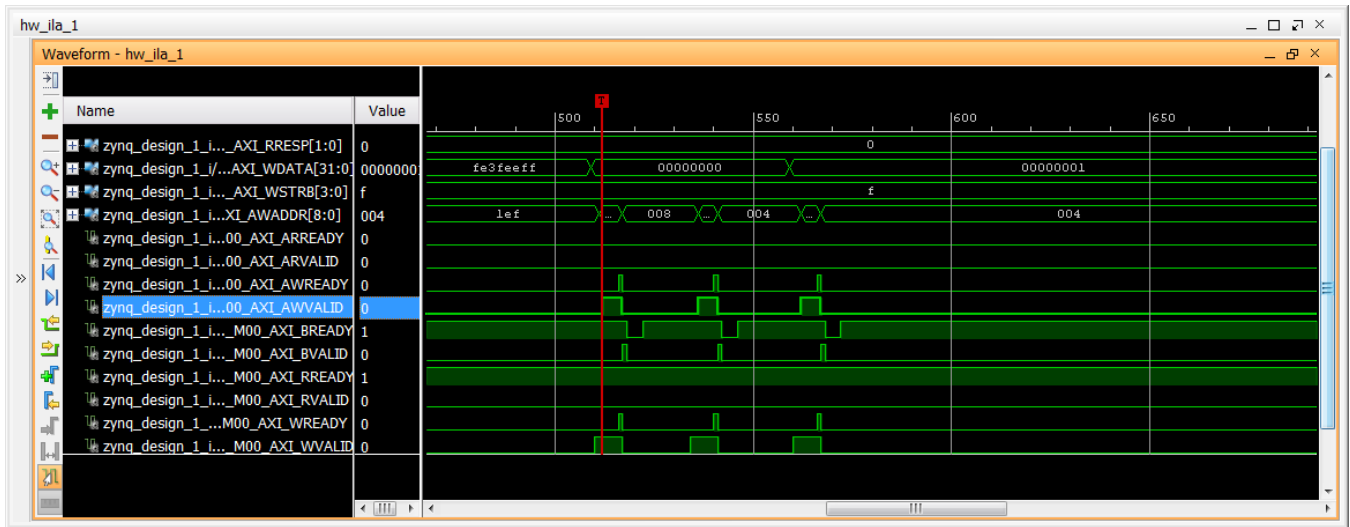

Figure 50: Trigger Mark Goes to 1
**Note:** The trigger mark occurs at the first occurrence of the AWVALID signal going to a 1, as shown in Figure 50.